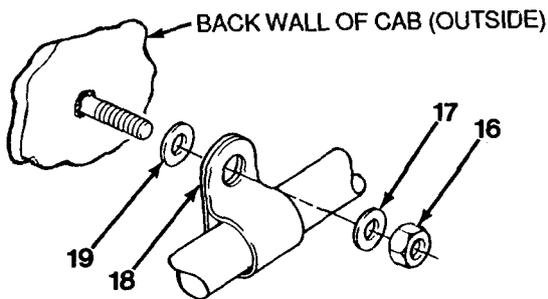

Figure 17-3
9. Install washer (19), clamp (18), washer (17) and nut (16, Figure 17-3) on outside rear of cab.